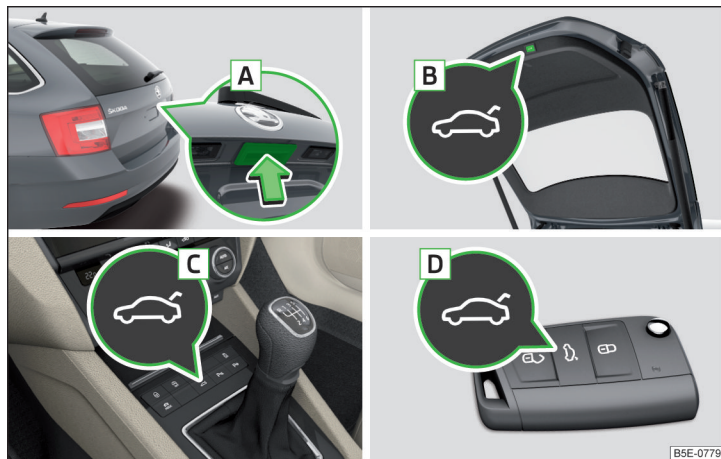

Fig. 40 Lid operation
- ▶ By pressing the handle **A** » Fig. 40.
- ▶ By pressing the button **B** » Fig. 40.
- Press and hold button **B** » Fig. 40 on page 58 until you hear an acoustic signal.
The lid does not react to an opening signal	Removing a possible obstacle (e.g. snow), re-opening the lid » page 58 Press handle » Fig. 40 on page 58 and pull the lid upwards